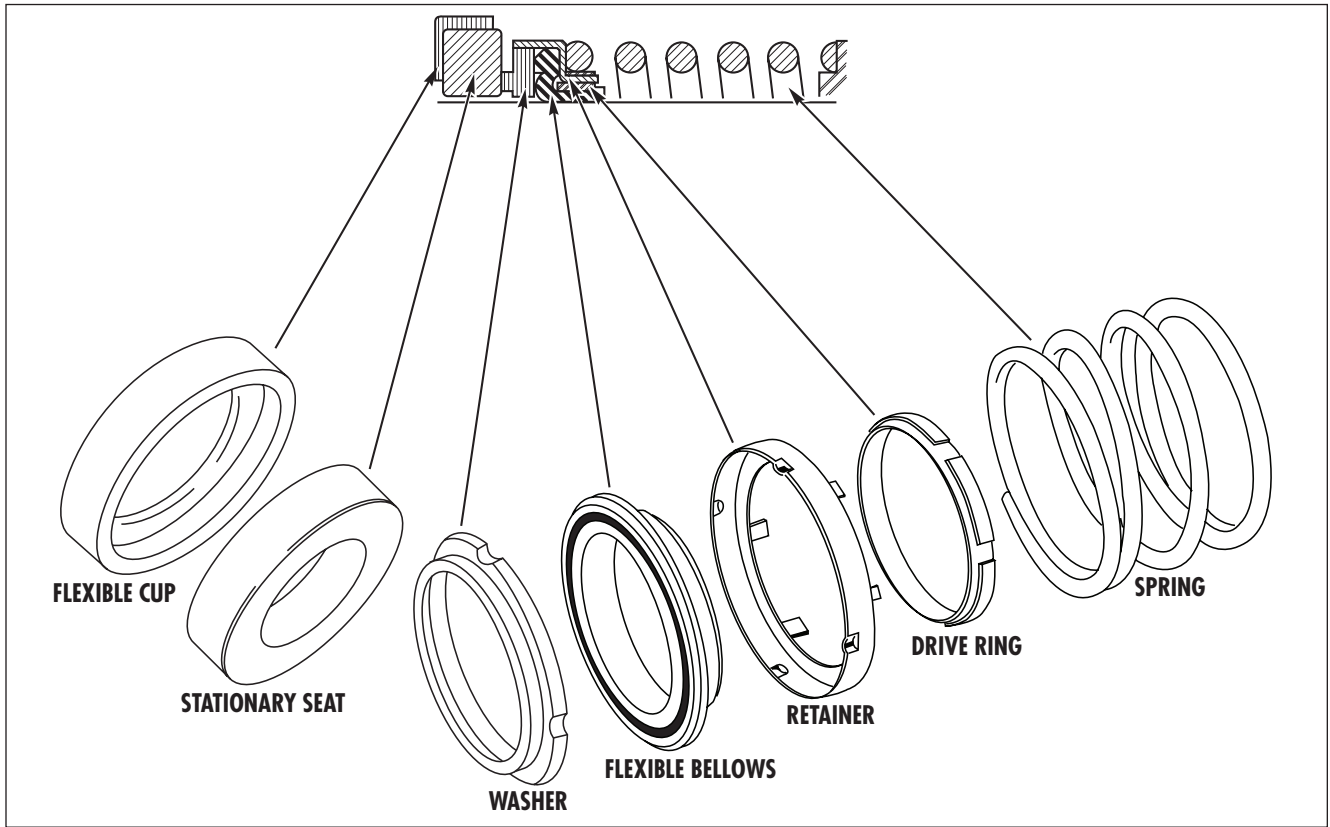

Figure 1. Mechanical Seal (optional)
The mechanical seal (see Figure 1) is a precision product and must be treated as such. During removal, great care must be taken to avoid dropping any part of the seal. Take particular care not to scratch the lapped faces on the washer or the sealing seat. If any wear of the seal faces is noted, it is recommended to replace with a new seal during reassembly.
The mechanical seal (27), (see Figure 1), should not be installed as an assembly. It is necessary to have the seal seat properly in place before the balance of parts can be added.
- A. Wipe the sealing faces of the seat and seal washer clean. Apply a film of liquid dishwashing detergent (do not use oil or grease) to the flexible bellows in the rotating assembly and shaft sleeve (25). Slide the entire rotating assembly onto the sleeve making sure that the carbon washer faces away from the step in the sleeve.
- B. Thoroughly inspect the gland (23), checking for burrs or nicks which could damage flexible cup of mechanical seal. Apply a film of liquid dishwashing detergent (do not use oil or grease) to the flexible cup. Insert seat in cup and install in gland (23).